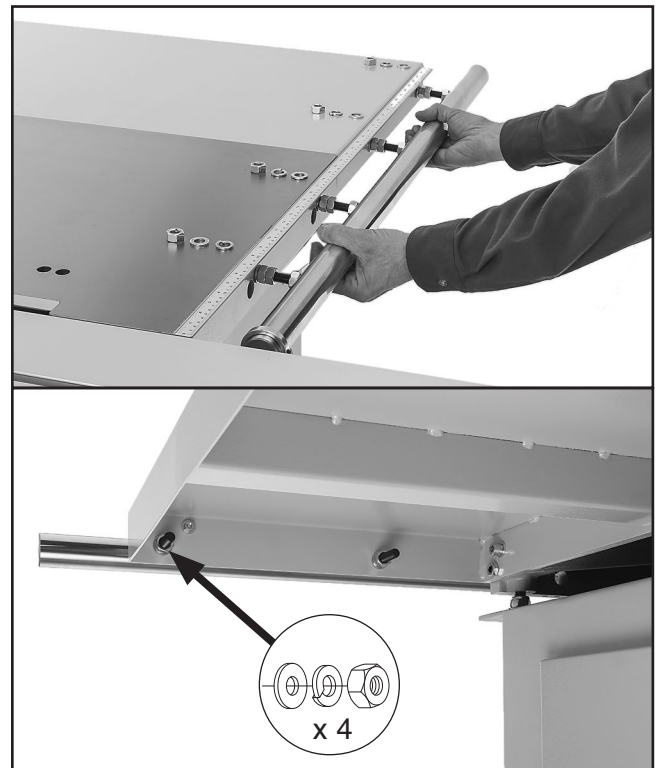

Figure 27. Installing rip fence rail.
17. Insert studs into tables (see **Figure 27**), and attach with hardware removed in **Step 16**.